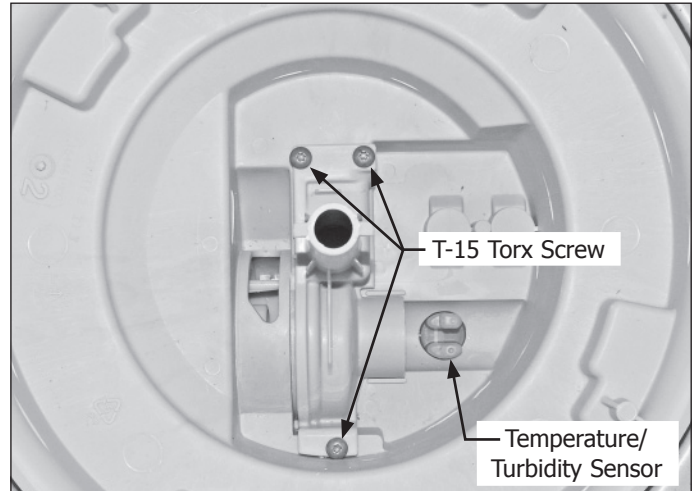

Figure 4-22.
2. Using a Torx T-15 bit, extract the three (3) screws securing the volute cover to the sump. Remove volute cover from sump area. The check ball is located beneath the volute cover. (See Figure 4-22)